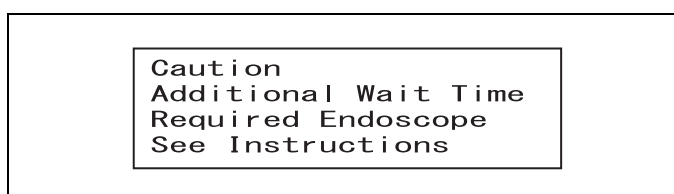

Figure 7.24
- With some endoscope models (Additional Wait Time Scopes = AWT-Scopes), short beeps are generated and the monitor displays the screen as shown in Figure 7.24 when the scope ID recognition is performed. When an AWT scope is used, do not proceed to automated leakage test until 9 minutes or more have elapsed after withdrawal of the endoscope from the patient body. Otherwise, the test results may become inaccurate due to the temperature change. For the mode of automated leakage test of the AWT-Scope, select the Immediate Mode if the time elapsed from the endoscope withdrawal is less than 27 minutes or the Standard Mode when it is 27 minutes or more.